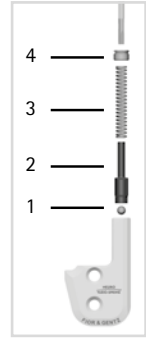

fig. 5
- 1 Assemble the functional unit. Mind the correct order: ball (1), pin (2), pressure spring (3) (fig. 5).
- 2 Screw in the pressure screw (4) tightly. This fixes the functional unit in the spring duct of the cover plate.